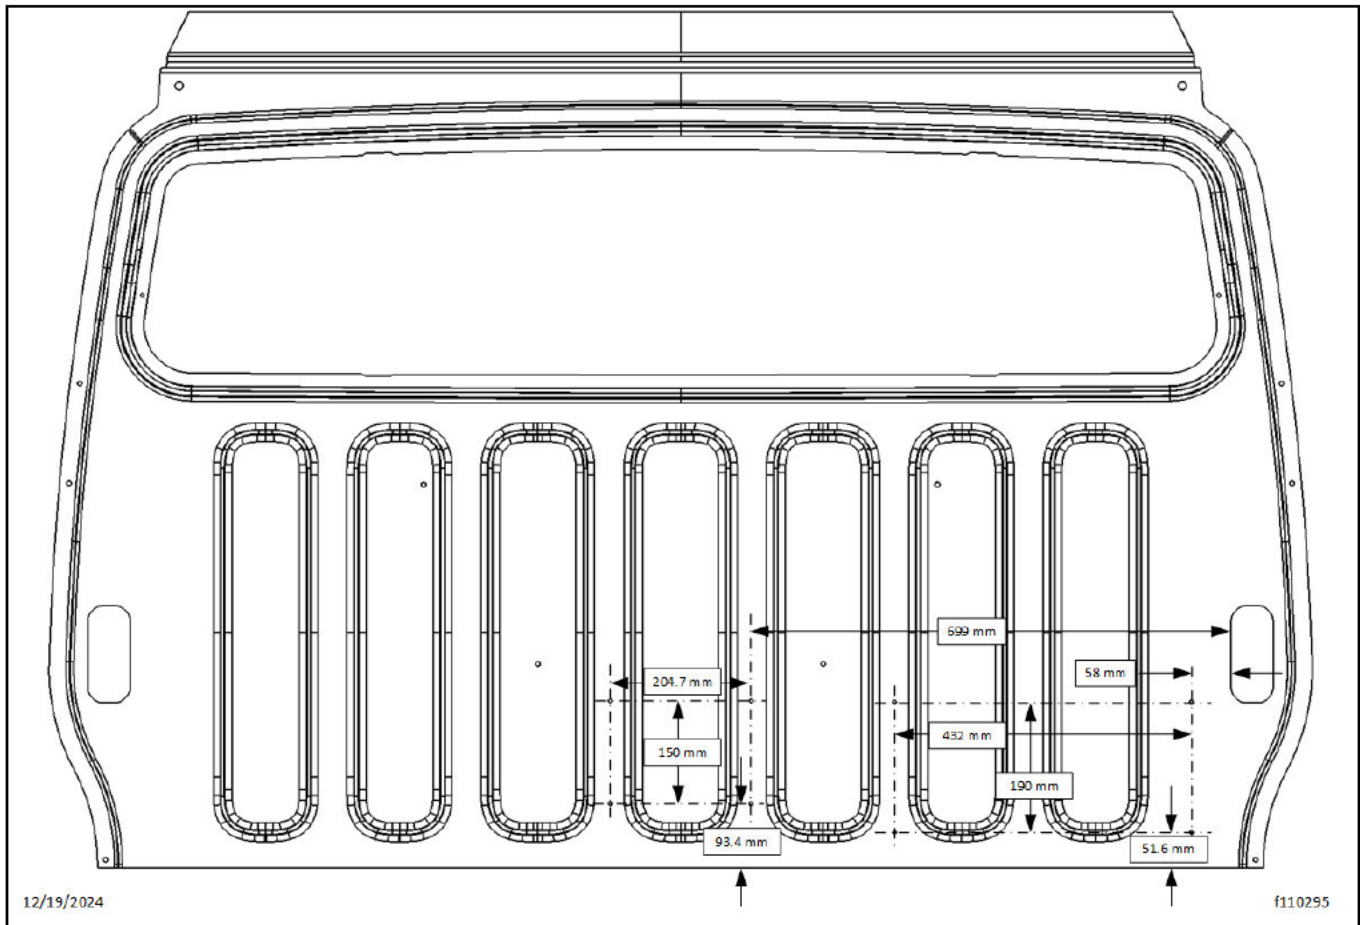

Fig. 9, Backwall Structure Drilling
1. Drill holes in the backwall structure, as illustrated in Fig. 9.